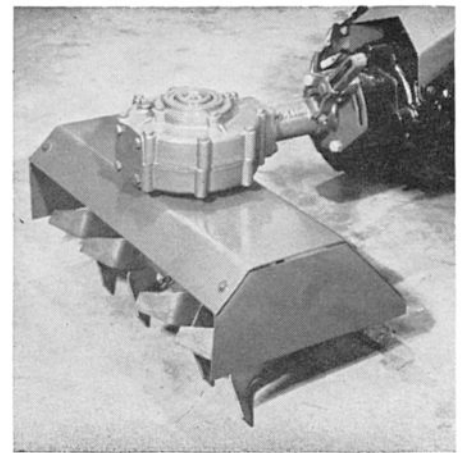

Figure 29
6. Rotate the Cultivator to the position shown in Figure 29. In this position the Tines will cut in the same direc-